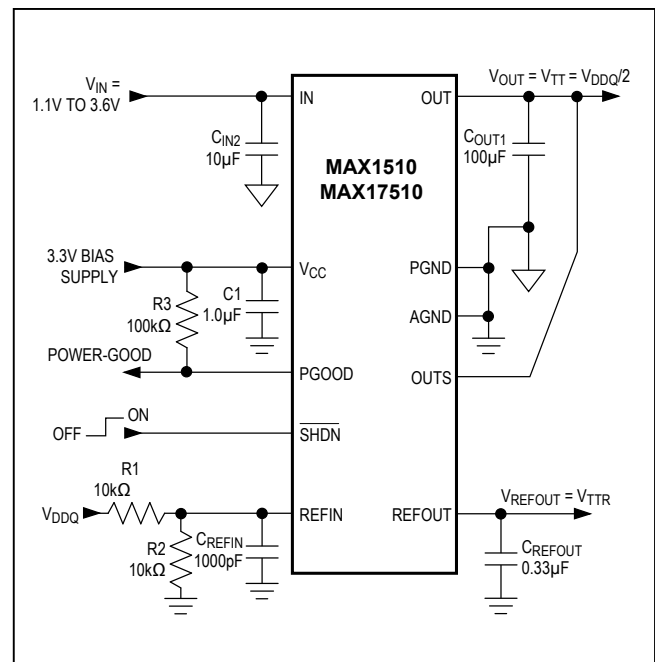

Figure 1. Standard Application Circuit
($V_{IN} = 1.8V$, $V_{CC} = 3.3V$, $V_{REFIN} = V_{OUTS} = 1.25V$, $\overline{SHDN} = V_{CC}$, circuit of Figure 1, $T_J = T_A = -40^\circ C$ to $+85^\circ C$ for MAX1510ETB, $T_J = T_A = -40^\circ C$ to $+125^\circ C$ for MAX17510ATB, unless otherwise noted. Typical values are at $T_A = +25^\circ C$.) (Note 1)
($V_{IN} = 1.8V$, $V_{CC} = 3.3V$, $V_{REFIN} = V_{OUTS} = 1.25V$, $\overline{SHDN} = V_{CC}$, circuit of Figure 1, $T_J = T_A = -40^{\circ}C$ to $+85^{\circ}C$ for MAX1510ETB, $T_J = T_A = -40^{\circ}C$ to $+125^{\circ}C$ for MAX17510ATB, unless otherwise noted. Typical values are at $T_A = +25^{\circ}C$.) (Note 1)
(Circuit of Figure 1. $T_A = +25^\circ\text{C}$, unless otherwise noted.)
The MAX1510/MAX17510 are low-voltage, low-dropout DDR termination linear regulators with an external bias supply input and a buffered reference output (see Figures 1 and 2). V_{CC} is powered by a 2.7V to 3.6V supply that is commonly available in laptop and desktop computers. The 3.3V bias supply drives the gate of the internal pass transistor, while a lower voltage input at the drain of the transistor (IN) is regulated to provide V_{OUT}. By using separate bias and power inputs, the MAX1510/MAX17510 can drive an n-channel high-side MOSFET and use a lower input voltage to provide better efficiency.
The MAX1510/MAX17510 regulate OUTS to the voltage set at REFIN, making the devices ideal for memory applications where the termination supply must track the supply voltage. Typically, REFIN is set by an external resistive voltage-divider connected to the memory supply (V_{DDQ}) as shown in Figure 1. The maximum output voltage of 1.5V is limited by the gate-drive voltage of the internal n-channel power transistor.
| 6.1 | | Corrected typos in Electrical Characteristics table and Figure 1 | 3, 10 |